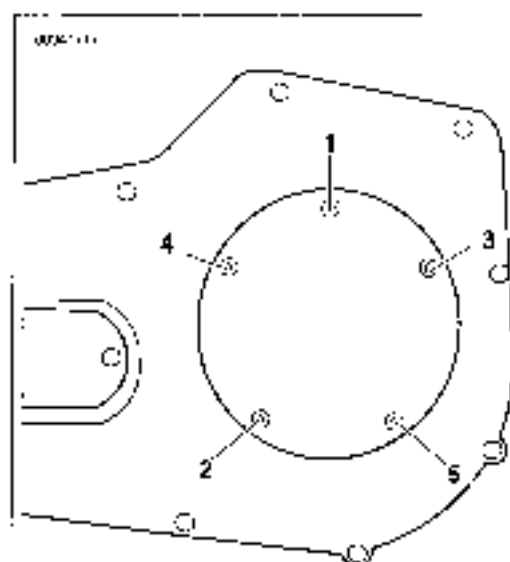

Figure 1-27. Clutch Cover Torque Sequence
- Attach clutch inspection cover using five TORX screws with captive washers. Tighten to 84-108 in-lbs (8.5-12.2 Nm). Follow torque sequence shown in Figure 1-27.